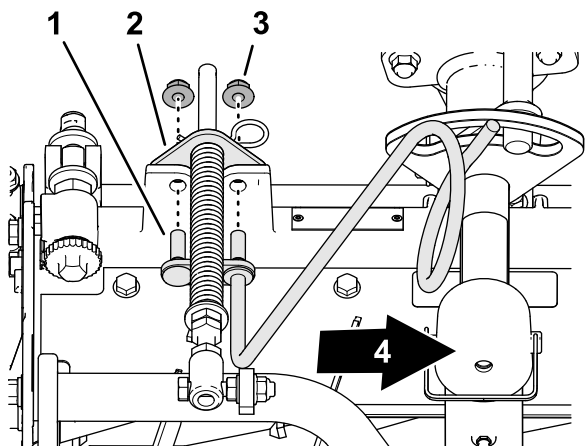

Figure 14
3. Align the studs of the right hose guide with the holes in the cutting-unit frame and the turf-compensator bracket (Figure 14).